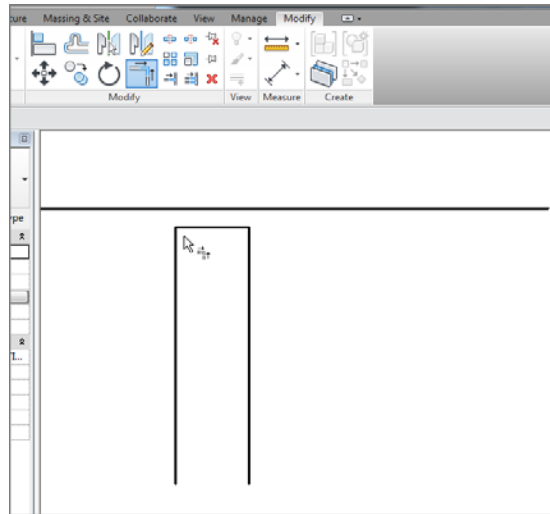

FIGURE 12.60: Trimming the corners
18. Click the Trim/Extend To Corner button on the Modify tab, as shown in Figure 12.60.
19. Trim the edges of the top of the wall (see Figure 12.60).